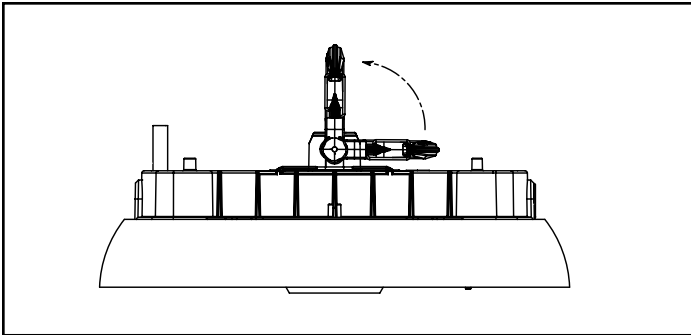

Figure 1.
1. Install hook. (Figure 1.)
2. Flip up hook 90-degrees. (Fig.1)